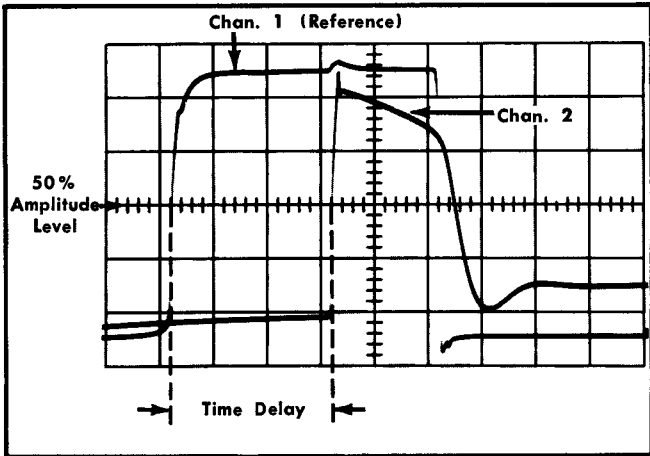

Fig. 3-3. Measuring time delay between pulse waveforms.
9. Measure the horizontal distance between the reference waveform and the Channel 2 waveform (see Fig. 3-3).
For example, assume that the Time/Cm switch setting is  $2 \mu\text{s}$ , the Magnifier is set for  $5\times$  magnification, and there is a horizontal distance of 3 cm (as shown in Fig. 3-3) between the leading edge of the reference waveform and the leading edge of the waveform displayed by Channel 2. Then, substitute these values in the preceding formula: